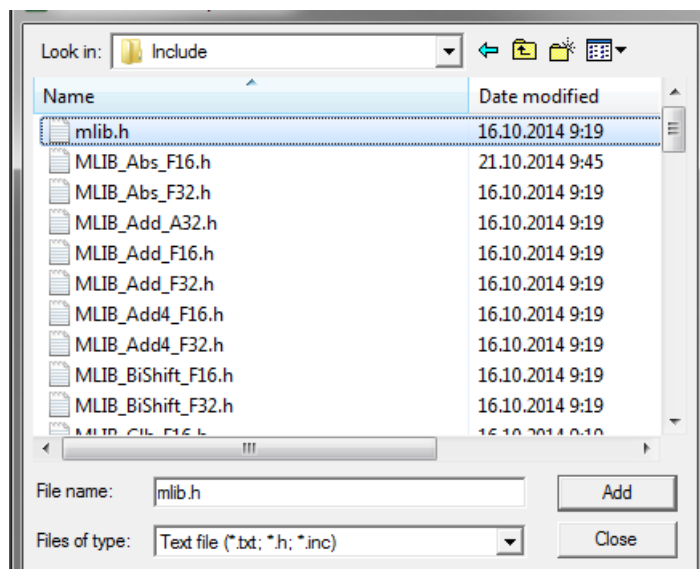

Figure 1-31. Adding .h files dialog
4. Navigate into the library installation folder C:\NXP\RTCESL\CM0_RTCESL_4.6_KEIL\MLIB\Include, and select the *mlib.h* file. If the file does not appear, set the Files of type filter to Text file. Click Add. See Figure 1-31.